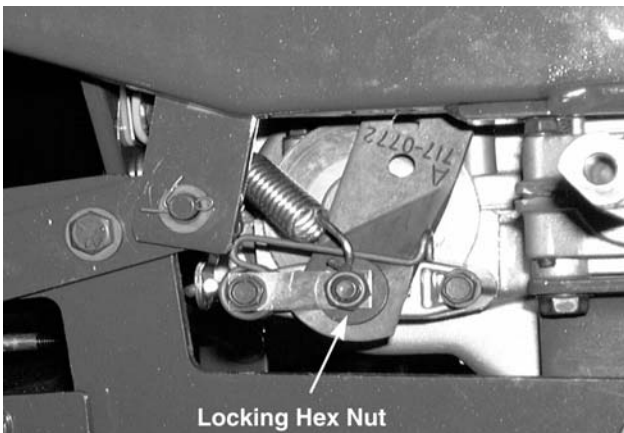

Figure 8-54.
10. Pull the brake actuation arm forward and remove the brake cable spring from the brake actuation arm. See Figure 8-54.